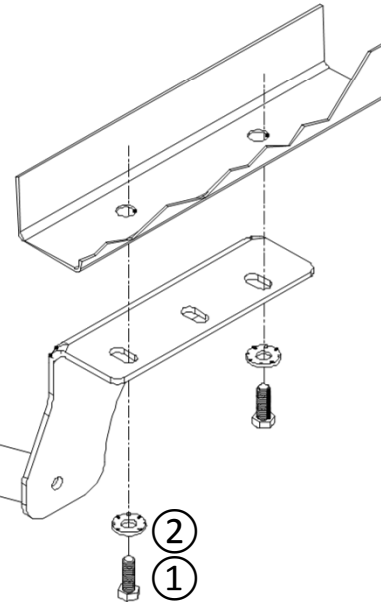

Figure 1
NOTE: On driver side, sandwich the hitch bracket between frame rail and tie down bracket, see Figure 1.
5. Hitch installation - raise the hitch into position over existing weldnuts and loosely install M12 bolt ① and conical washer ② into weldnuts. NOTE: On driver side, sandwich the hitch bracket between frame rail and tie down bracket, see Figure 1.
NOTA : Du côté passager, intercaler le support d'attelage entre le longeron et le support d'arrimage, voir Figure 1.